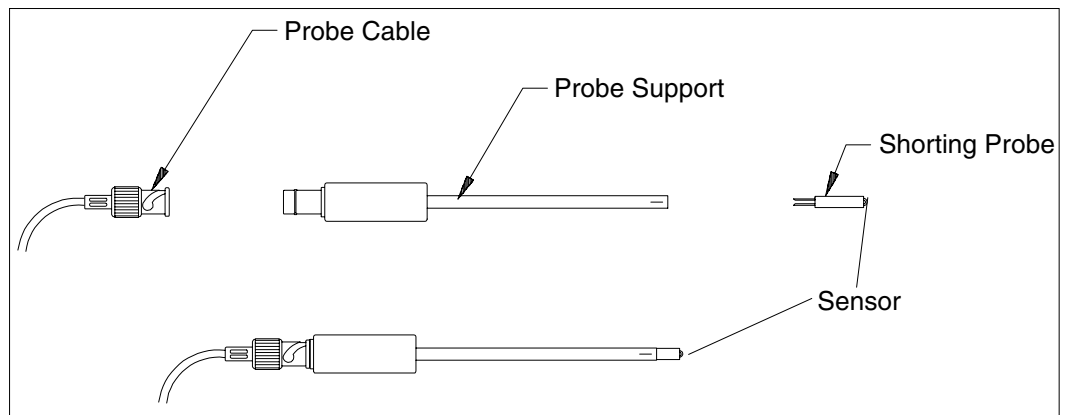

Figure D-2
- ❑ If you have a probe with a probe support, install a shorting probe as shown in Figure D-2